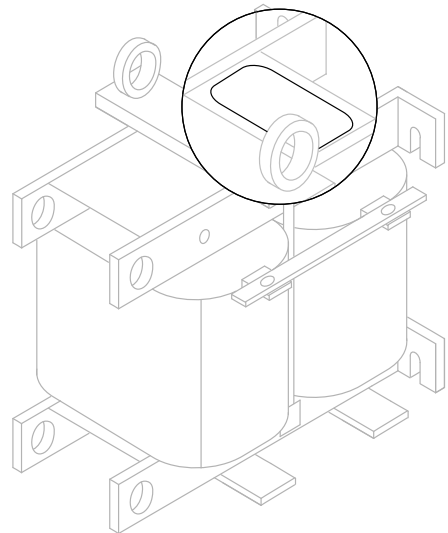

Figure 2.3 DC Link Choke
- 4. Use the DC Link Choke Kits and SPC Model Compatibility on page 26 to confirm you have received the correct choke. Locate the model number on the DC Link Choke (DCL) nameplate as shown in Figure 2.3